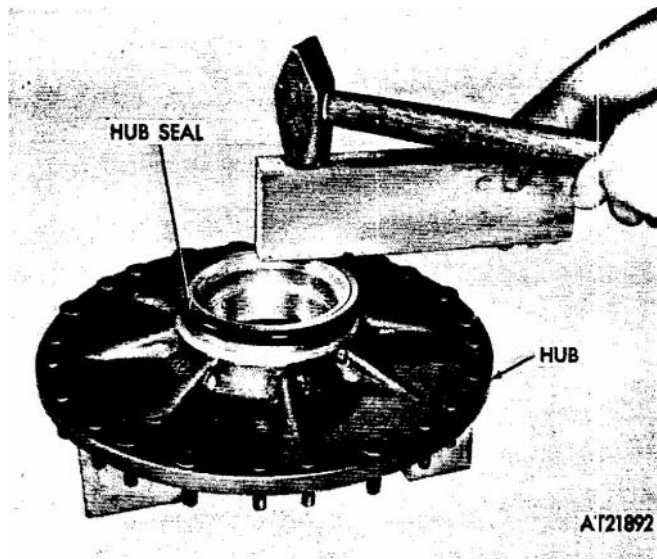

Figure 2-239. Hub seal installation.
(8) Place hub on wooden blocks and position seal over hub. Install using a wooden block and hammer (fig 2-239).